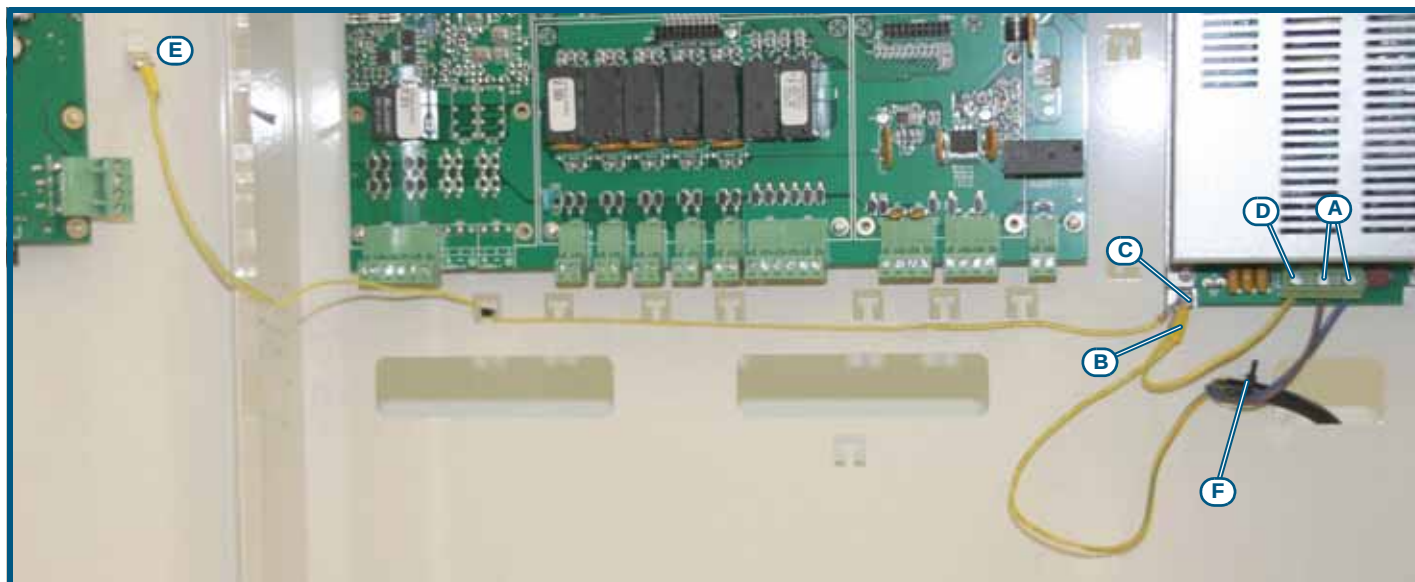

Figure 28 - Earthing system
1. Connect the mains power supply to the terminals on the power-supply module (paragraph 4.4 - [A] and Figure 28 - Earthing system, [A]).